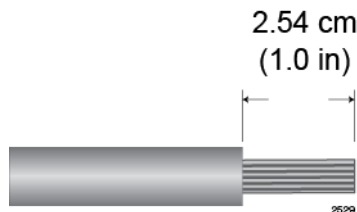

Figure 129. Stripping the solid or Stranded Grounding Wire
1. Prepare an adequate length of solid or stranded 10 AWG grounding wire by stripping it as shown in Figure 129.